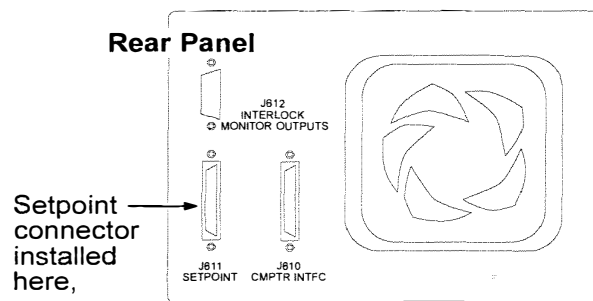

Figure 2-6. Location of Computer Interface Connector
1. With the rear panel of the unit facing you, install the female connector of the ribbon cable through J610 opening (Figure 2-6) from the outside of the unit, colored stripe (pin 1) is on top.